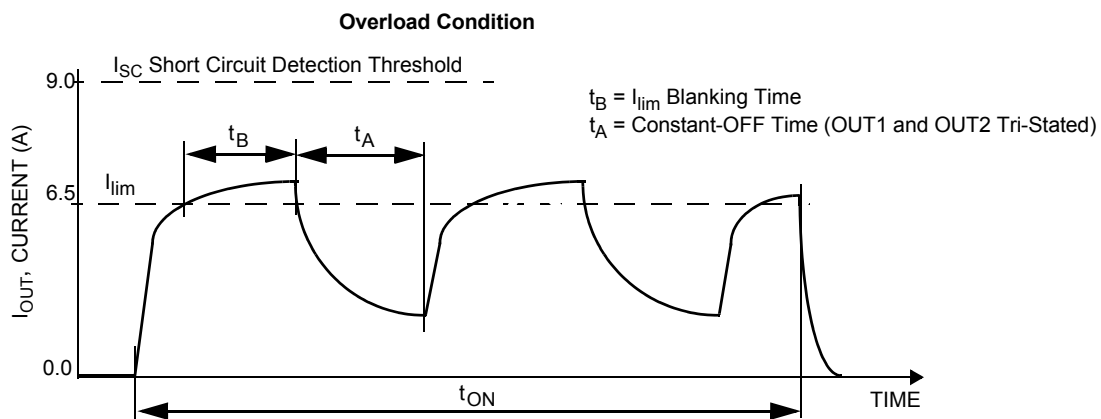
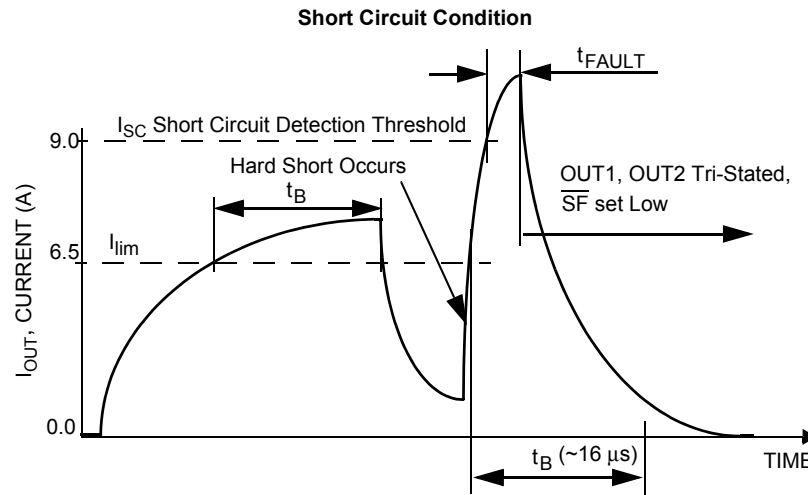
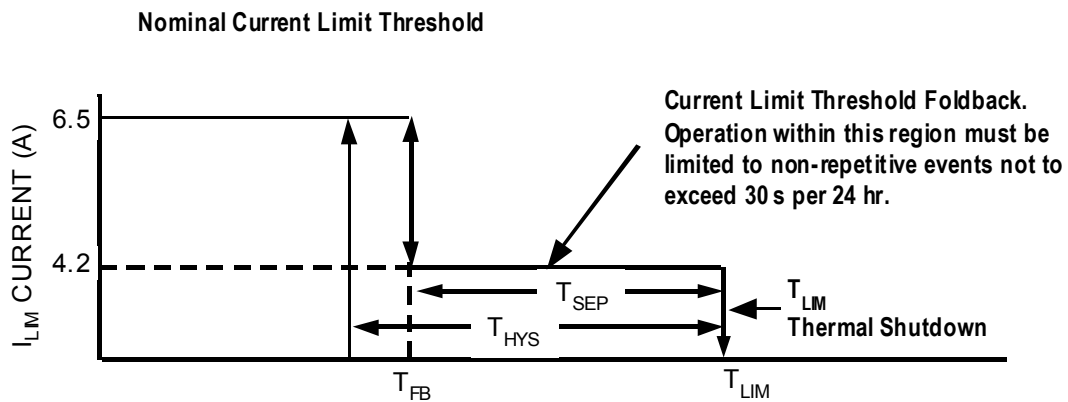

Figure 7. Current Limit Blanking Time and Constant-OFF Time
Figure 8. Short-circuit Detection Turn-OFF Time t_{FAULT}
Figure 9. Output Current Limiting Foldback Region
28. Load currents ramping up to the current regulation threshold become limited at the I_{LIM} value (see Figure 7). The short-circuit currents possess a di/dt that ramps up to the I_{SCH} or I_{SCL} threshold during the I_{LIM} blanking time, registering as a short-circuit event detection and causing the shutdown circuitry to force the output into an immediate tri-state latch-OFF (see Figure 8). Operation in Current Limit mode may cause junction temperatures to rise. Junction temperatures above $\sim 160^\circ\text{C}$ will cause the output current limit threshold to “fold back”, or decrease, until $\sim 175^\circ\text{C}$ is reached, after which the T_{LIM} thermal latch-OFF will occur. Permissible operation within this fold back region is limited to non-repetitive transient events of duration not to exceed 30 seconds (see Figure 9).